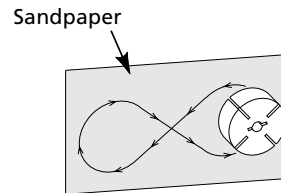

Figure 26 - Sanding Rotor
14. Place fine grade sandpaper (600 grit) on flat surface. Sand rotor lightly in "figure 8" motion four times (See Figure 26).